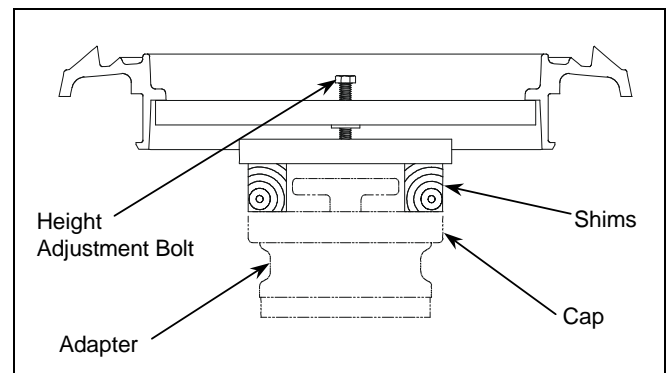

Figure 3 – Standard Cover Model Height Adjustment
Step 8: (See Figure 3 & 4)
Install adjusting system beneath tabs on mounting ring. See Figure 3 for standard cover models. See Figure 4 for sealable cover models. Add shims as needed and adjust with screw. (Shims must be cut to size for sealable cover models.) The height can be increased up to 1" (2.5cm).
Install OPW FSA-400 (Composite Base) or FSA-400S (Cast Iron Base) Face Seal Adapter onto riser. (Recommend Torque, 4" NPT, 125 ft-lbs min. to 250 ft-lbs max.). Apply pipe dope to FSA. The pipe dope is to be a non-hardening, gasoline resistant, pipe thread seal compound. This is optional for spill containers that are on the vapor lines. (See Figure 3.)
Thread on spill container. (See Figure 3.)